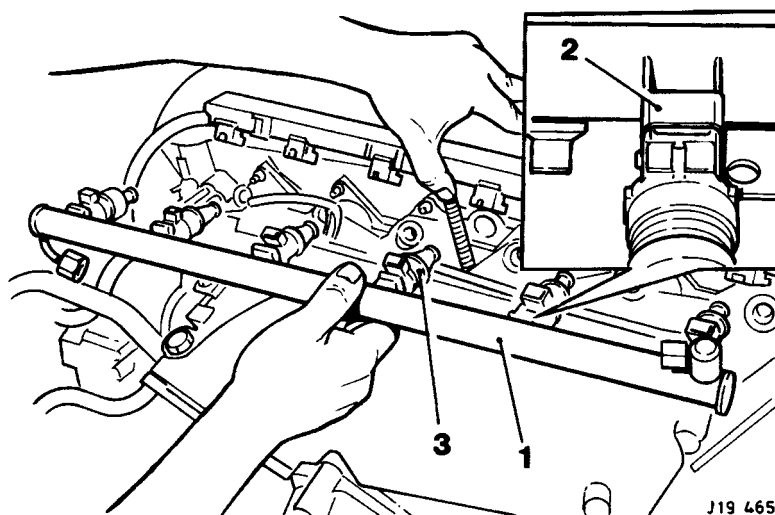

Fig. 1
- Undo and remove regulator mounting bracket to inlet manifold bracket securing bolt (5 Fig.1).
- Remove fuel rail assembly (1 Fig.1) from manifold.
- Remove the injector retaining clips (2 Fig.1).
- Remove injectors (3 Fig.1).